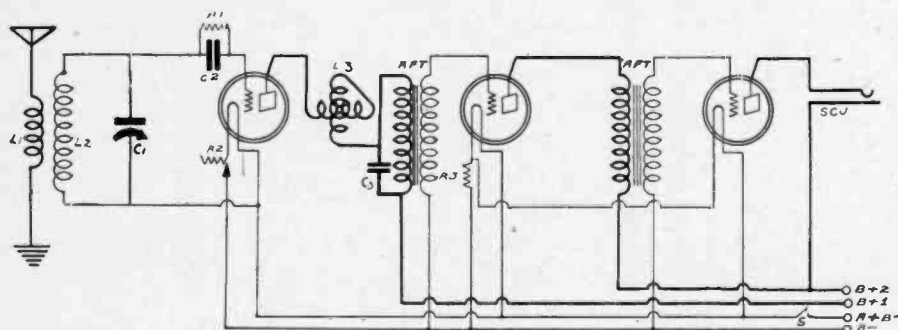

FIG. 533
(1)—The circuit diagram of a three-tube receiver using these parts is shown in Fig. 533. The variometer is connected in the plate circuit, and makes the set regenerative.